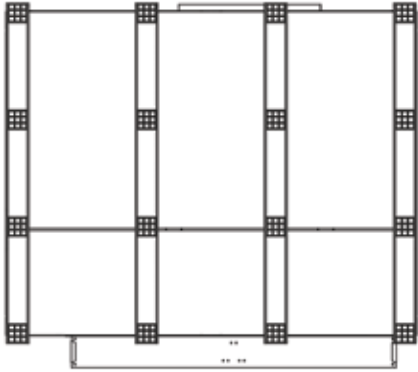

Figure 3C - Base Option 2 - Channel Steel with Waffle Pads - Bottom View
2. **Channel Steel with Waffle Pads** - Obtain channel steel rail of an approved gauge to support the unit weight and place underneath the unit in 4 locations per single module or 7 locations per dual module, see Figure 3C. Place waffle pad type furnace pads underneath the channel steel rail inside the “C” facing down for sound dampening. It is important that the channel steel rail does not touch the ground or sound dampening will not occur. All the rails must be level before placing the unit atop them. Please note the locations of the pads.